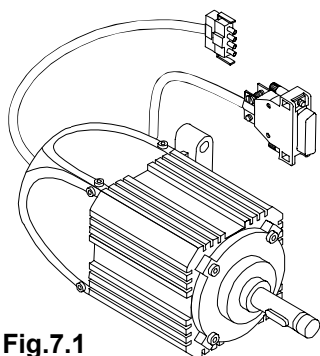

Fig.7.1
**Motor QE3760 (Fig.7.1)** with integrated optoelectronic incremental encoder for commutation and positioning.